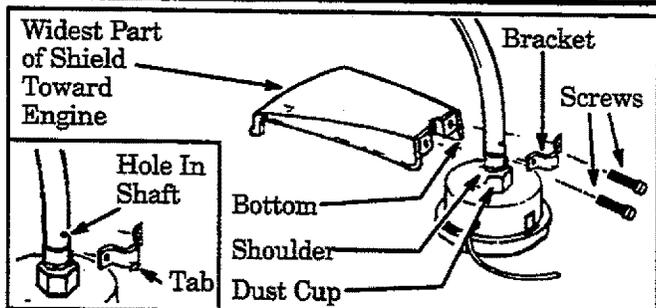

Figure 6
Do not alter or remove the Bracket Tab. When installed correctly, the Bracket Tab ensures proper shield alignment. Failure to install the shield in the position shown in Figures 6 and 7 can result in serious injury to the operator.
- Match the Tab on the Bracket with the hole on the Drive Shaft Housing. Figure 6 (inset).
- Attach the Shield to the Bracket with the two screws as shown in Figure 6.